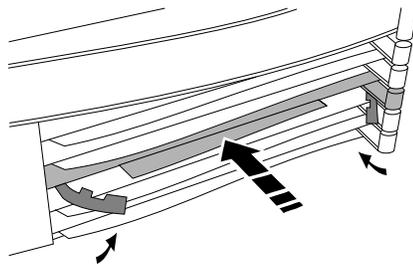

Figure 9. Installing the Interface Card
4. Pull the locks on the bezel outward, then push evenly on both ends until the card fully engages and the locks swing inward to about 45°. See figure 9.